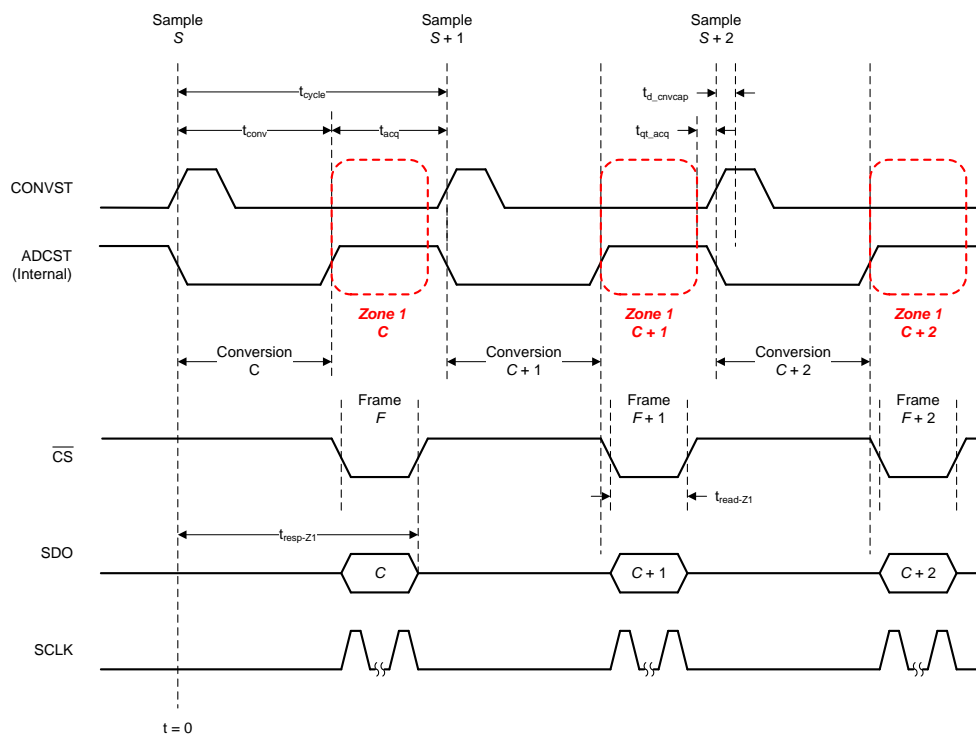
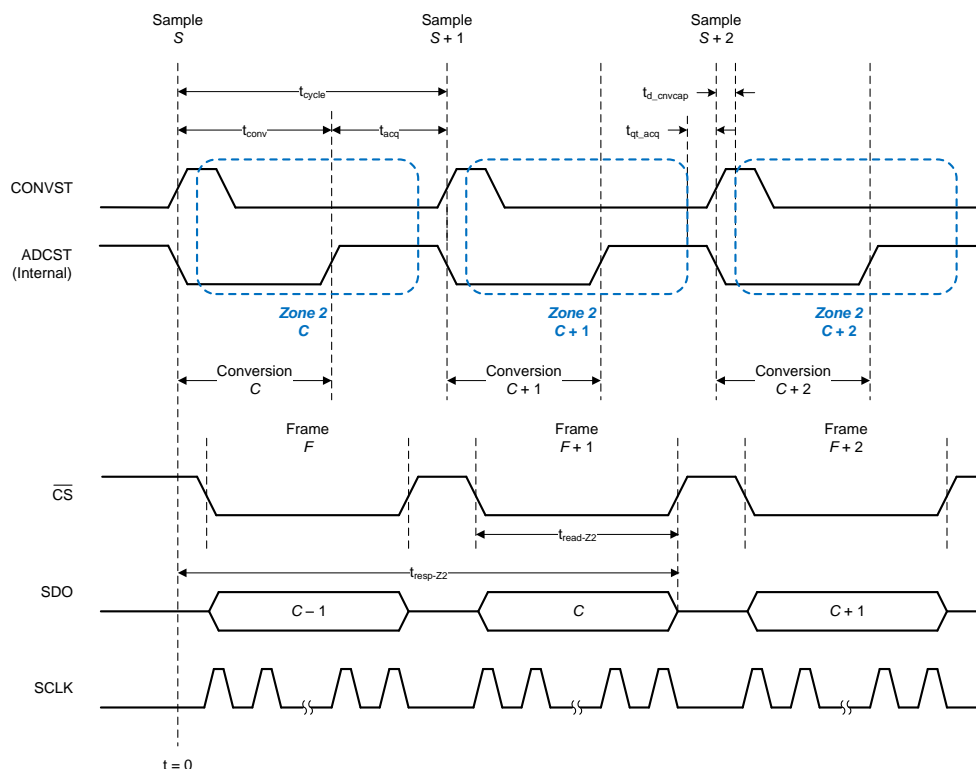

Figure 45. Zone 1 Data Transfer
Figure 46. Zone 2 Data Transfer
Figure 45 and Figure 46 illustrate interleaving of three conversion cycles (C, C + 1, and C + 2) with three data transfer frames (F, F + 1, and F + 2) in zone 1 and in zone 2, respectively.
- Extended data transfer window, as shown in Figure 46.